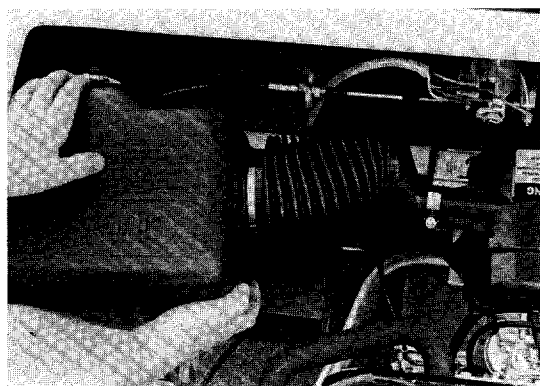

Figure 7-6
2. Loosen intake expansion chamber hose clamps, remove intake expansion chamber from air filter housing cover. Support air filter housing cover when removing intake expansion chamber from air filter housing cover (Figure 7-6).